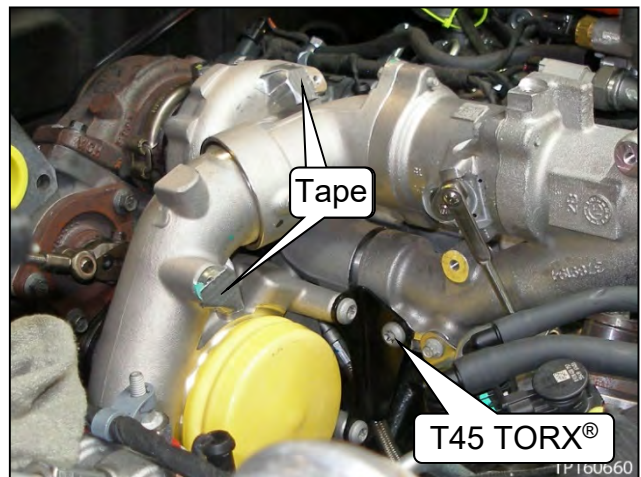

Figure 53
- Cover the hole with tape (see Figure 53).
39. Remove the T45 TORX® bolt (see Figure 53).